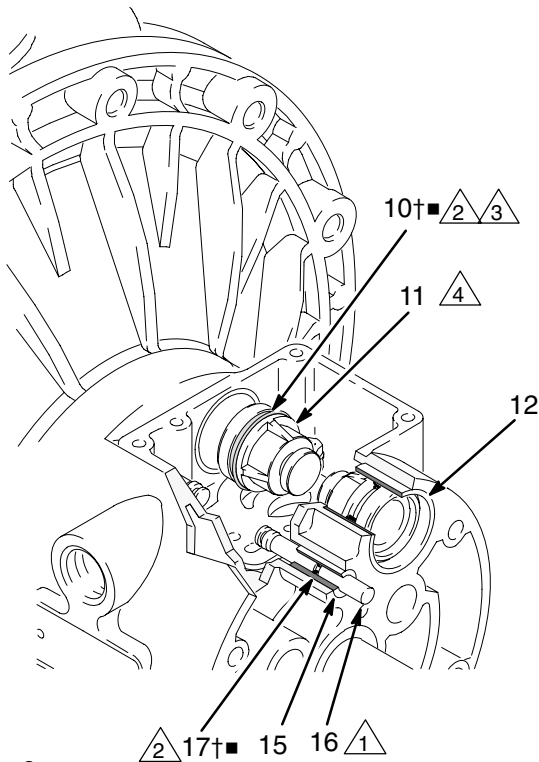

Fig. 8
4. Pull the two actuator pistons (11) out of the bearings (12). Remove the u-cup packings (10) from the pistons. Pull the pilot pins (16) out of the bearings (15). Remove the o-rings (17) from the pilot pins. See Fig. 8.
6. Inspect the bearings (12, 15) in place. See Fig. 8. The bearings are tapered and, if damaged, must be removed from the outside. This requires disassembly of the fluid section. See page 21.
4. Install an o-ring (17†■) on each pilot pin (16). Grease the pins and o-rings. Insert the pins into the bearings (15), **narrow** end first. See Fig. 8.
5. Install a u-cup packing (10†■) on each actuator piston (11), so the lips of the packings face the **narrow** end of the pistons. See Fig. 8.
6. Lubricate the u-cup packings (10†■) and actuator pistons (11). Insert the actuator pistons in the bearings (12), **wide** end first. Leave the narrow end of the pistons exposed. See Fig. 8.